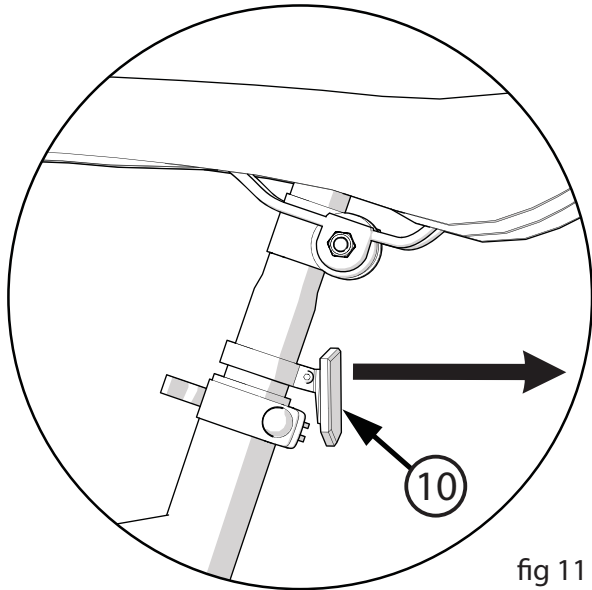

fig 11
1. Position REAR Reflector (10) so it points straight backward (**fig 11**).